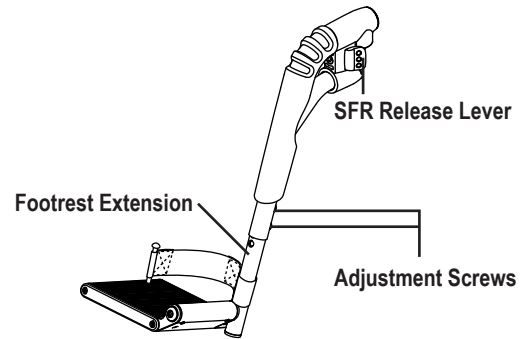

Figure 2. Swing-away Footrest Adjustment
1. Remove the adjustment screw(s) from the footrest extension. **See figure 2 or 3.**